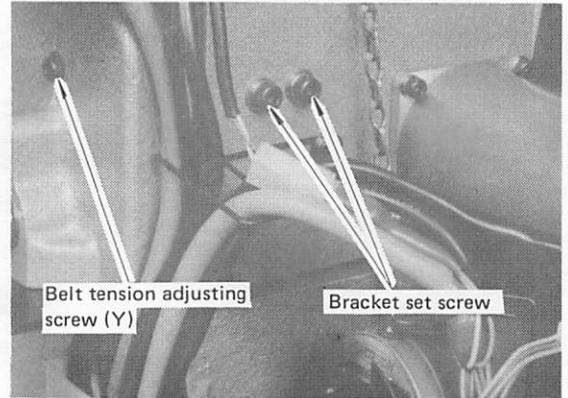

Fig. 10.30
(2) To adjust tension of the Y-axis belt, remove the belt cover and motor cover, loosen the bracket set screw shown in Fig. 10.30 and tighten the belt tension adjusting screw (Y).
(3) The recommended belt tension is that no slack occurs when belt is lightly depressed by finger.